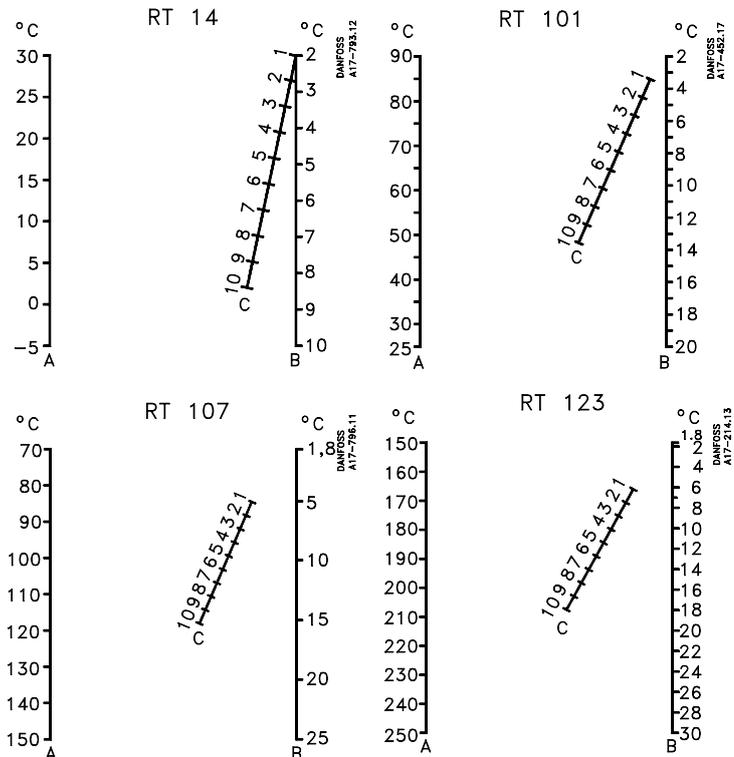

Fig. 2
Zie fig. 2, 3 en 5
The differential is set by rotating the differential adjusting nut (19) according to the nomogram concerned (fig. 2).
1. Set the thermostat on 180°C with the knob (5).
2. Set the differential adjusting nut (19) on number 3 which can be found by reading off the nomogram for the RT123 in fig. 2.